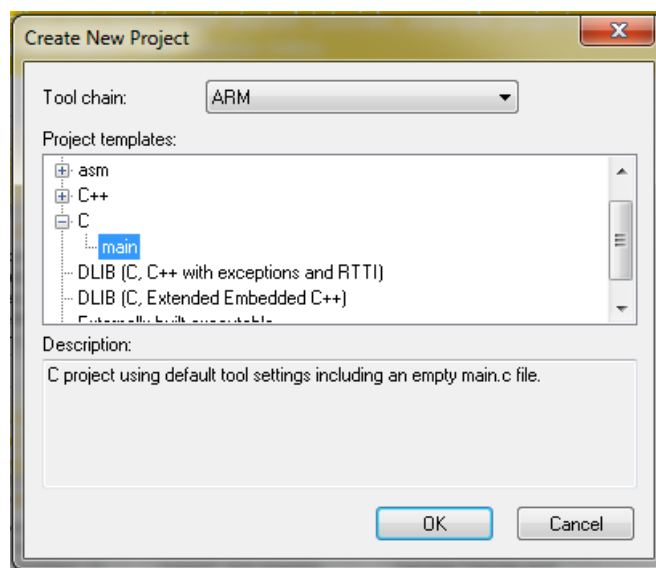

Figure 1-36. Create New Project dialog
2. In the main menu, select Project > Create New Project... so that the "Create New Project" dialog appears. See Figure 1-36.